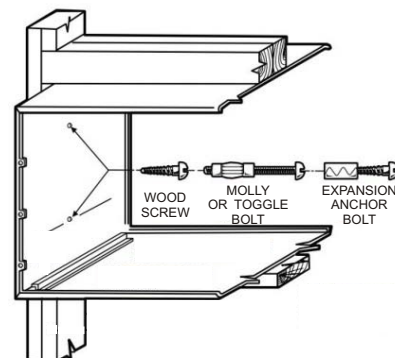

Fig 7
- Fasten the wall sleeve (Fig 7) .